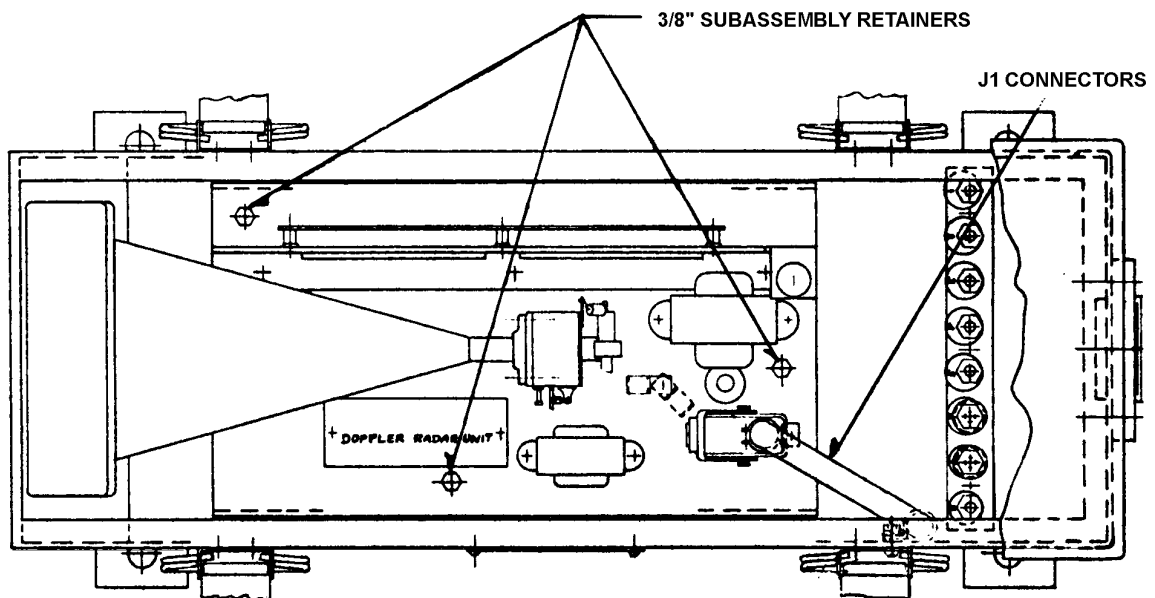

Figure 6-1. DR-50 Disassembly Diagram
2. Disconnect J1 connector, as located in Figure 6-1.
3. Using a 3/8" socket drive tool, remove three retaining nuts on base plate, also indicated in Figure 6-1.